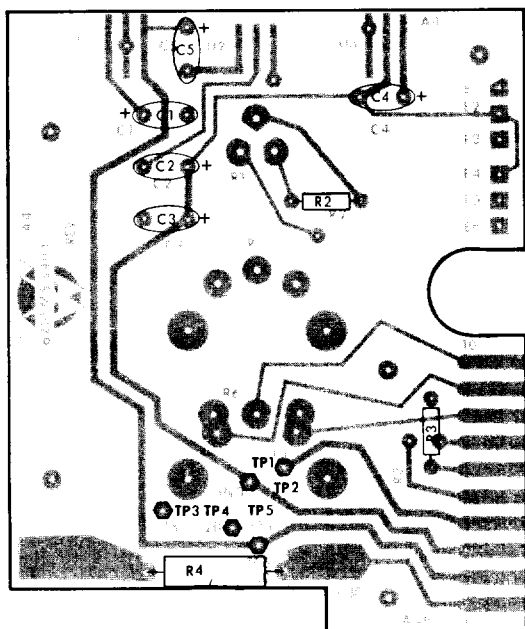

Figure 5-1. A4 Front Panel PC Board Test Point Locations
- a. On the plug-in, measure the dc voltages listed in Table 5-4 on the A4 Front Panel PC Board. Measure these voltages with respect to A4TP2 (Figure 5-1).